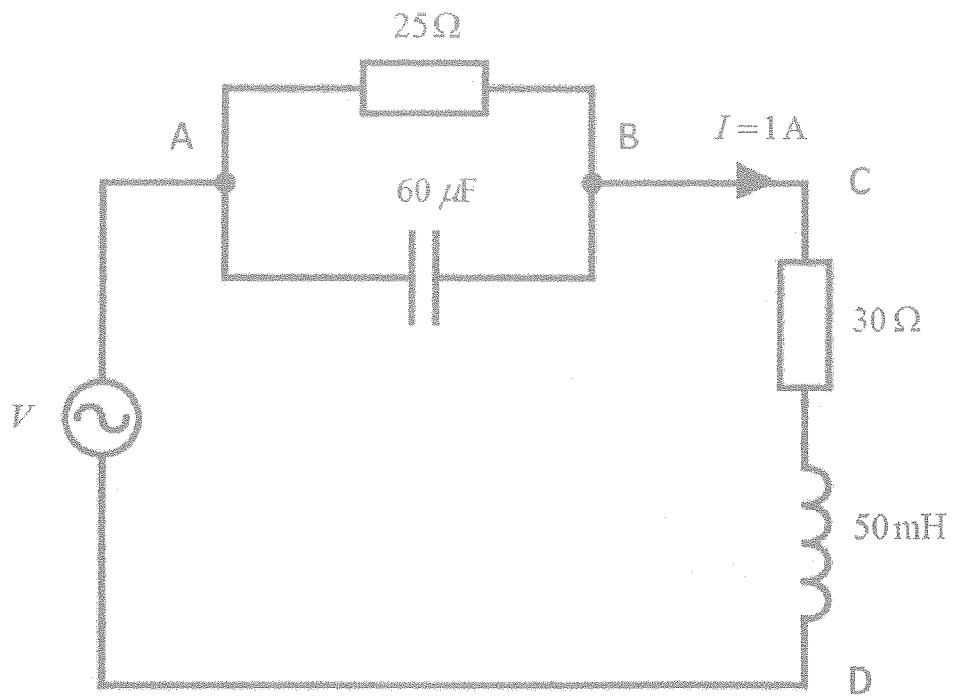

Figure Q2.1
- b) Consider the circuit given in Figure Q2.1. A current $I = 1$ A is supplied by the AC (Alternative Current) voltage source operating at 50 Hz.